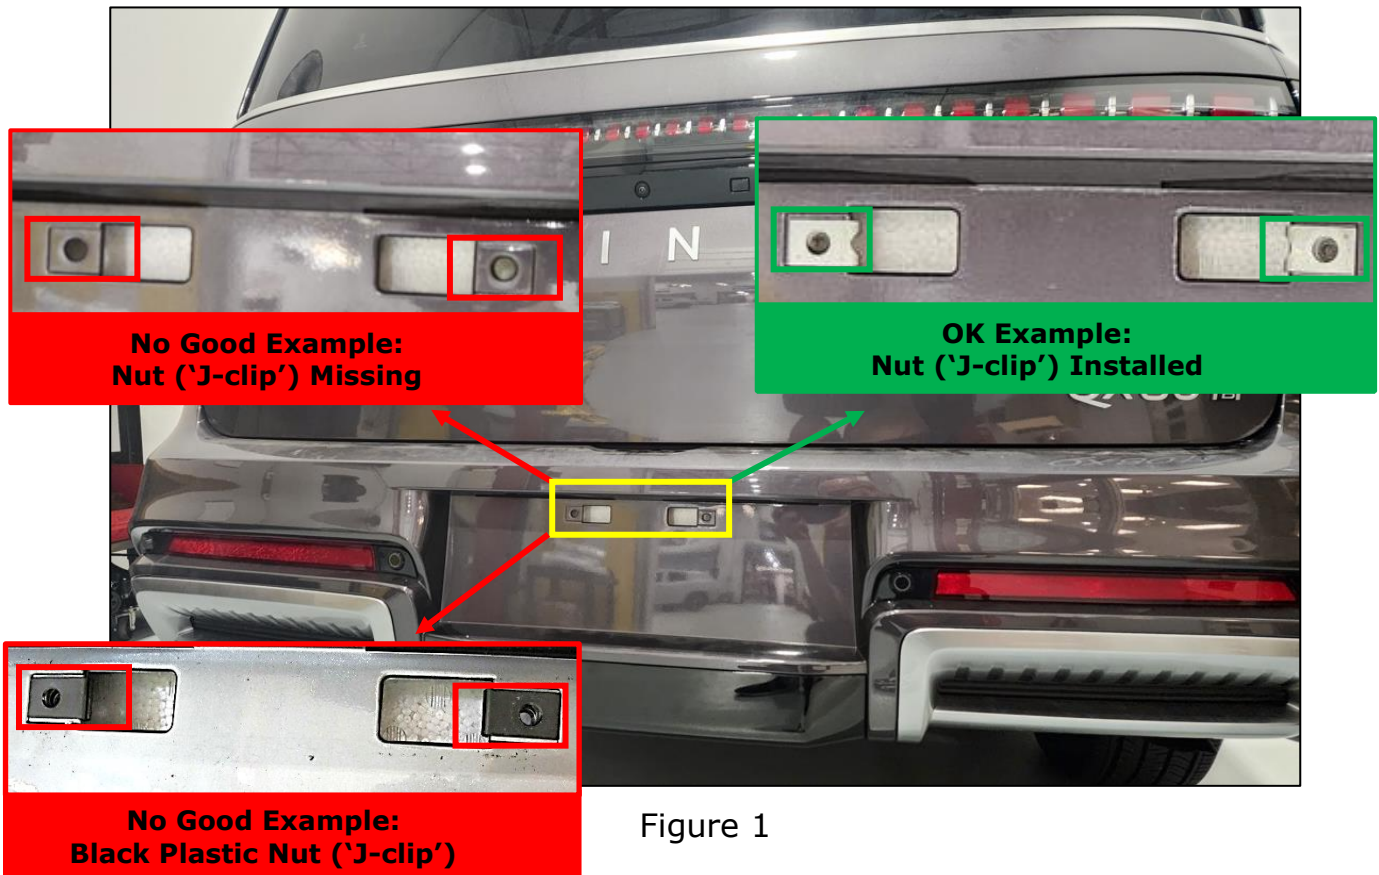

Figure 1
1. Inspect the rear bumper fascia for the presence of two (2) metal license plate nuts ('J-clips') shown in Figure 1.